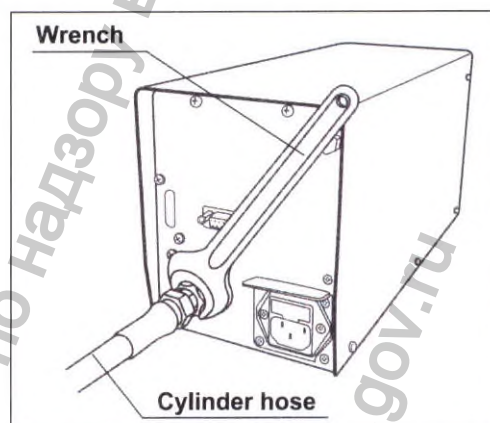

Figure 3.1
See the installation workflow in Figure 3.1 below. Follow each step of the workflow before using the endoscopic CO₂ regulation unit.
- 3** Use the supplied wrench to attach the medical gas pipeline adapter for the endoscopic CO₂ regulation unit to the CO₂ gas inlet on the rear panel of the endoscopic CO₂ regulation unit and securely tighten it. Tighten with a force of about 24.5 N·m (2.5 kgf/m). (See Figure 3.1)